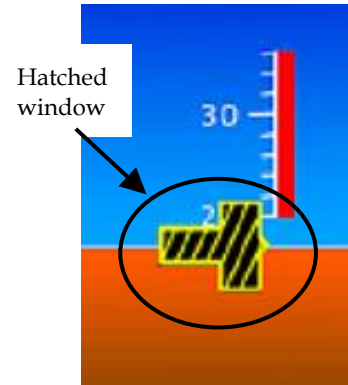

Figure 1: Airspeed indicator.
4. _____ As PFD powers up, the red X's over the airspeed and altitude will be replaced by actual airspeed and altitude tapes. Thirty (30) seconds after initial application of power, perform the following:
- a) Verify that the airspeed tape shows a yellow hatched window as in Figure 1.
- c. Verify that the airspeed tape still shows a yellow hatched window as in Figure 1.